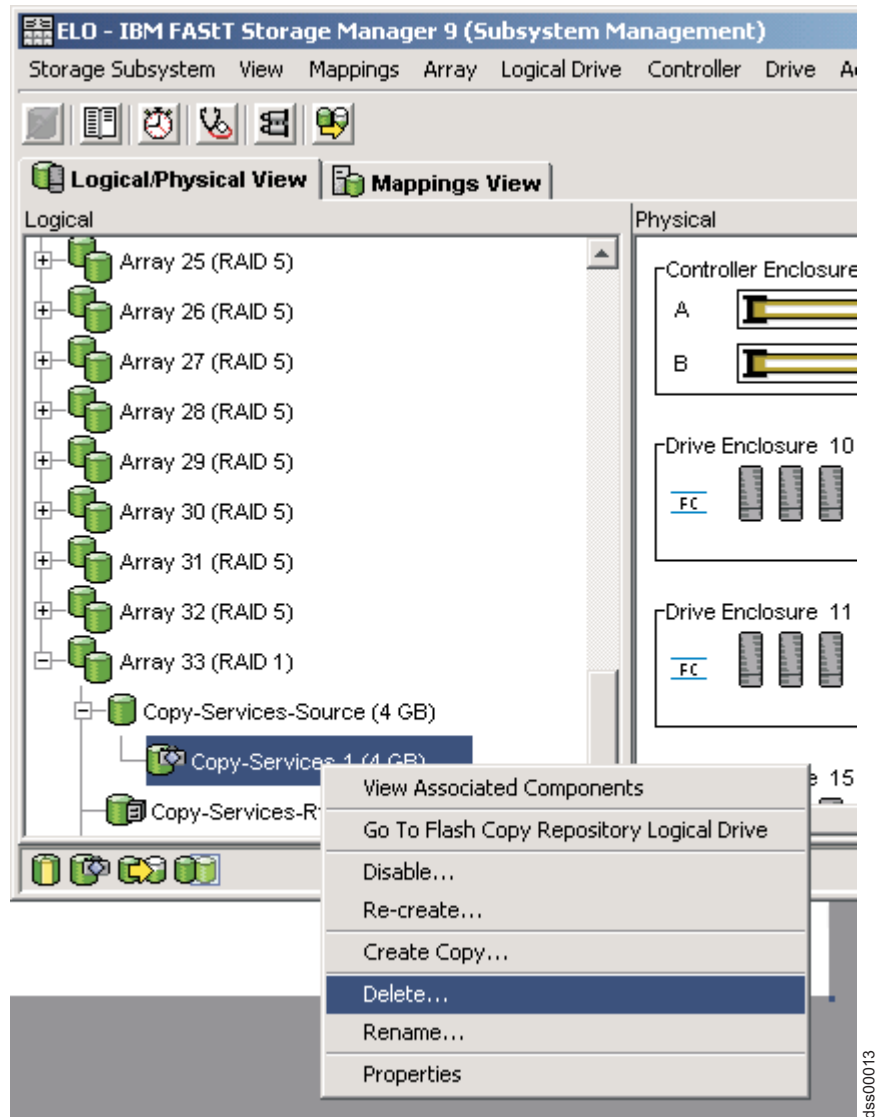

Figure 19. Deleting the FlashCopy logical drive
2. Click **Logical Drive** → **Delete**, as shown in Figure 19.